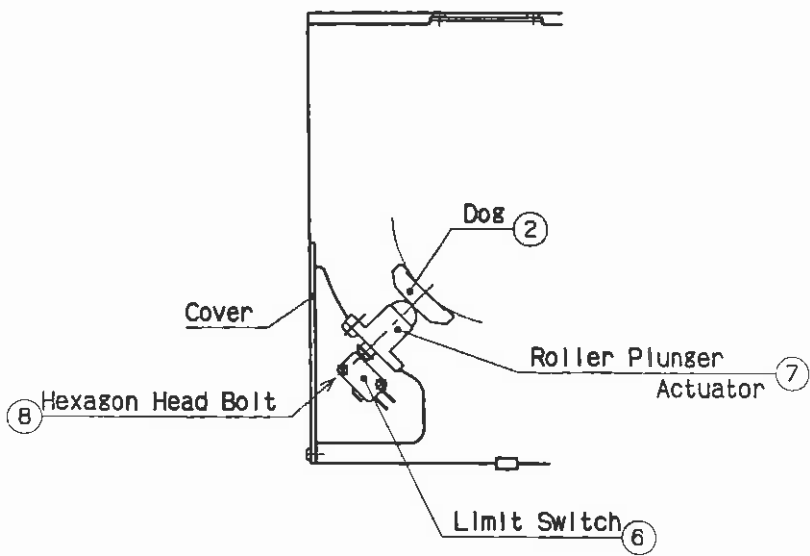

Fig. 5
- 2) Limit Switch (See Fig. 5)